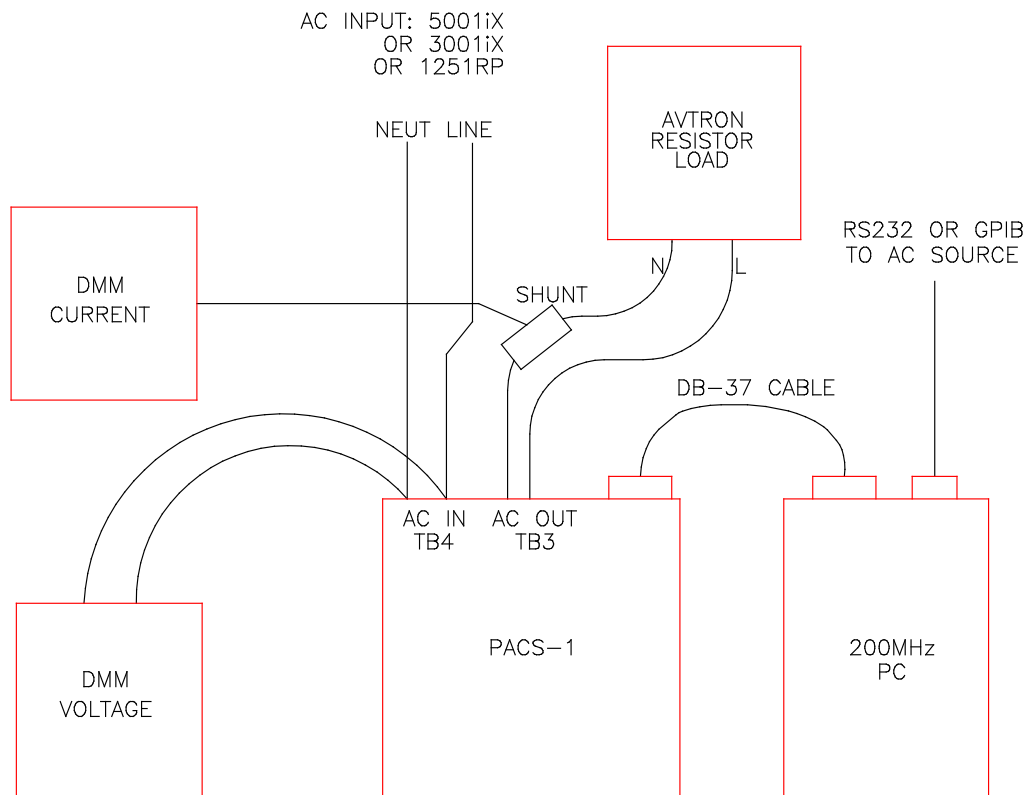

Figure 17-2: Single Phase Calibration Setup
1. For a single phase CTS system, configure the test set-up as shown in Figure 17-2. For a three-phase CTS system with or without a three-phase CI source, configure the test set-up as shown in Figure 17-3. Please note that only a single-phase A/C source is needed to calibrate a three-phase PACS unit.